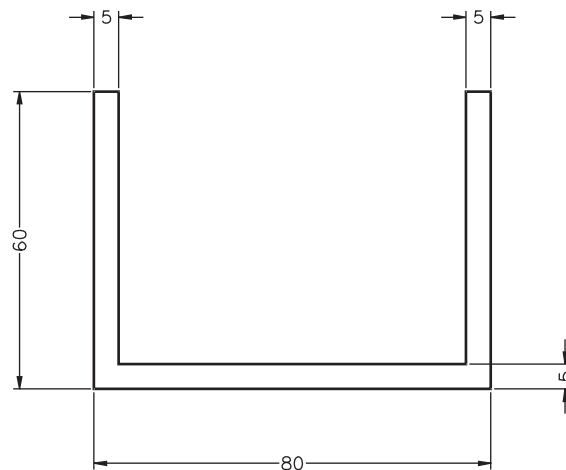

Fig. 12-1
2. Create the drawing of a plastic extrusion shown in Fig. 12-1. Use the pointing device (not the keyboard) to specify all points, and do not include the dimensions.